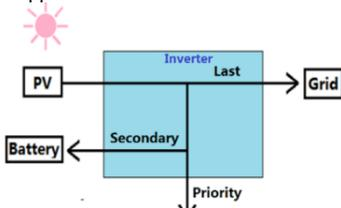

Figure 1-5
1. If PV is sufficient, PV supply power to the load priority, then charge battery, feeding into grid with surplus power. (Figure1-5)